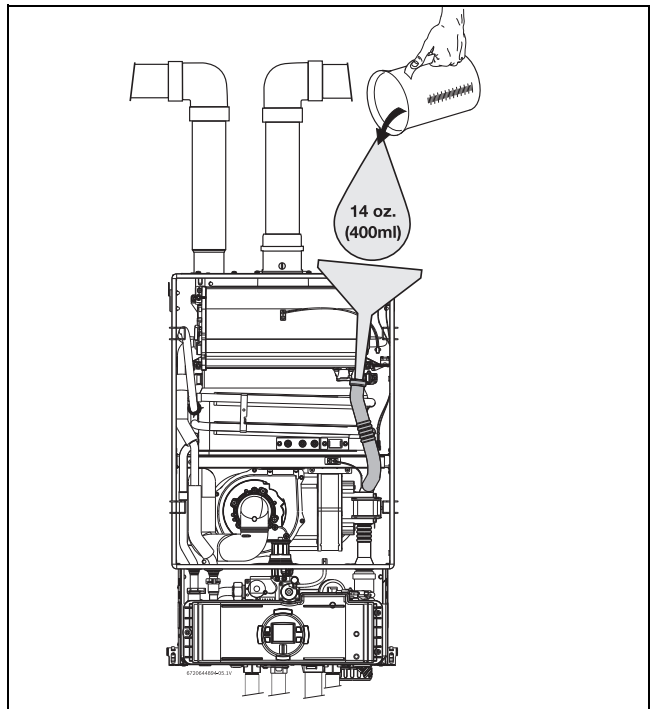

Fig. 40 Filling the condensate trap after installation
- Fill the condensate trap by pouring approx. 14 oz. (400ml) of water into the top of the drain tube. To avoid damage to the appliance use a funnel in this operation, see fig. 40, page 34.